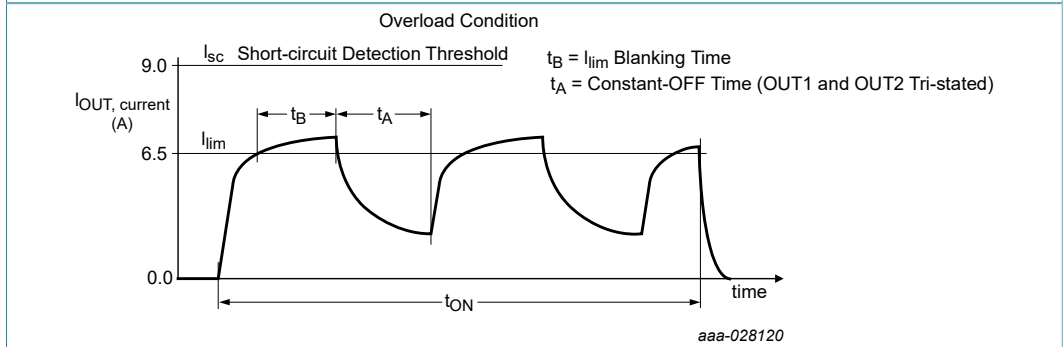
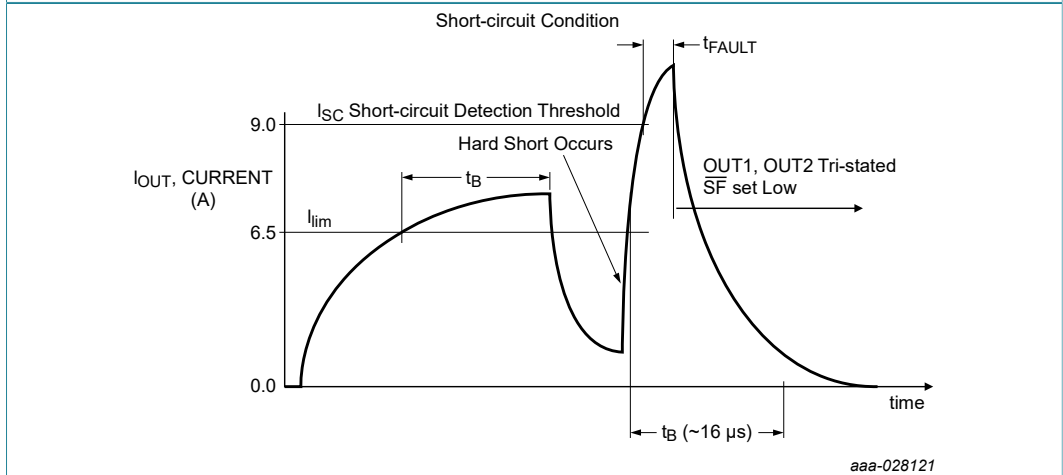
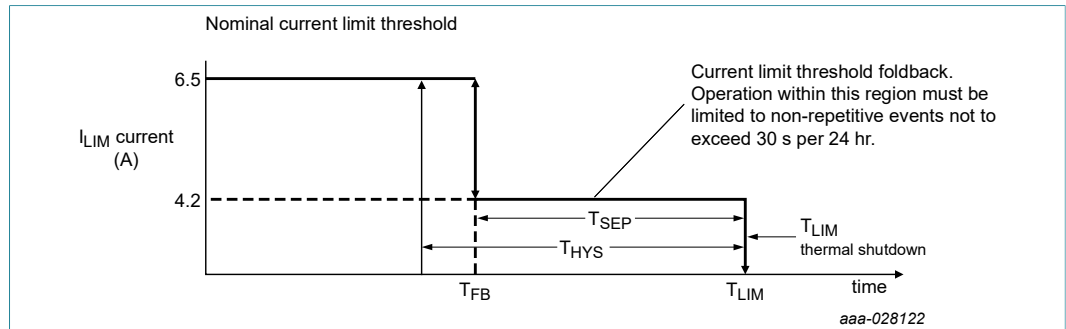

Figure 8. Current limit blanking time and constant-off time
Figure 9. Short-circuit detection turn-off time  $t_{FAULT}$
Figure 10. Output current limiting foldback region
- [9] Load currents ramping up to the current regulation threshold become limited at the  $I_{LIM}$  value (see Figure 8). The short-circuit currents possess a  $di/dt$  that ramps up to the  $I_{SCH}$  or  $I_{SCL}$  threshold during the  $I_{LIM}$  blanking time, registering as a short-circuit event detection and causing the shutdown circuitry to force the output into an immediate 3-state latch-off (see Figure 9). Operation in current limit mode may cause junction temperatures to rise. Junction temperatures above  $\sim 160\text{ }^\circ\text{C}$  causes the output current limit threshold to "foldback", or decrease, until  $\sim 175\text{ }^\circ\text{C}$  is reached, after which the  $t_{LIM}$  thermal latch-off occurs. Permissible operation within this foldback region is limited to non-repetitive transient events of duration not to exceed 30 seconds (see Figure 10).